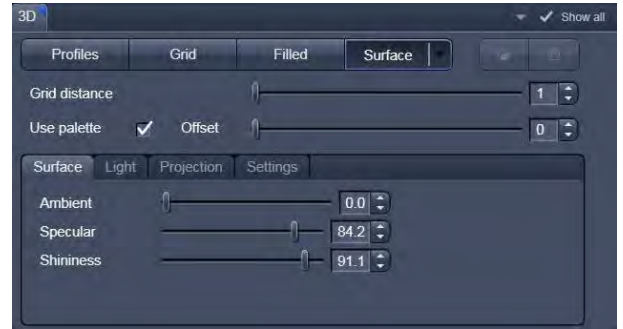

Fig. 229 Image view control block - 3D
If 3D is chosen within the Display block, following settings can be applied in the 3D control block (Fig. 229).
**Load / Save** (see Fig. 229) gives you the possibility to save / load all settings chosen in this block.